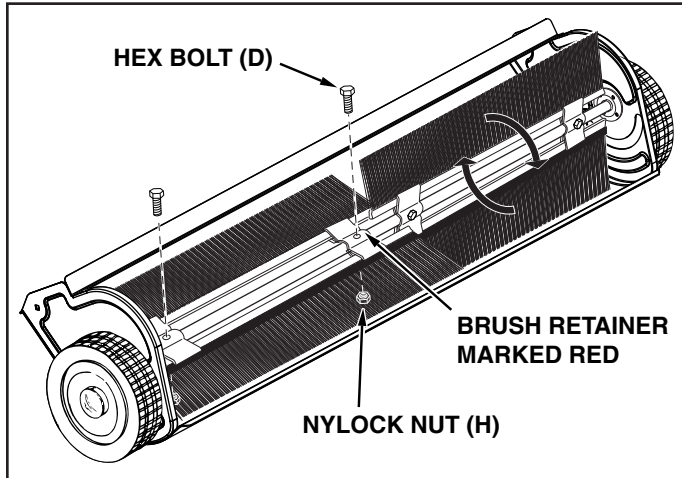

FIGURE 3
STEP 4: (SEE FIGURE 3)
- Attach the brush assembly with the red brush retainer to the left end of the brush shaft using two hex bolts (D) and nylock nuts (H). The brush retainer marked with red ink must be placed to the **middle** of the sweeper.